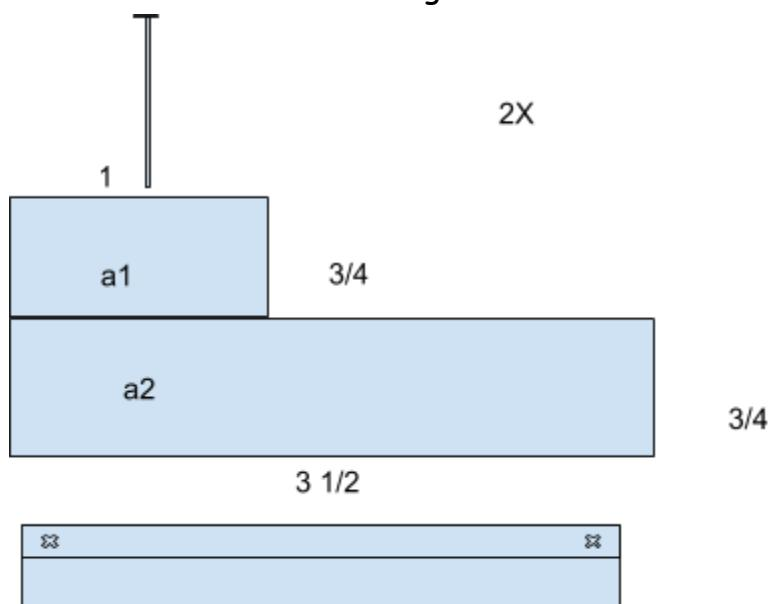

Figure 1
4. Drill two 1/16 in holes on both ends of the the a1 boards to the a2 boards (Fig 1)